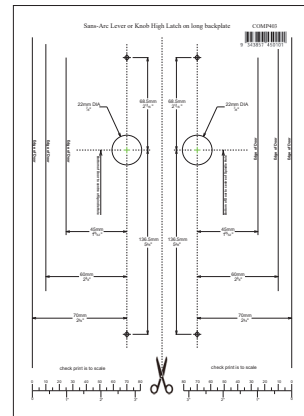

Figure 2
5. Drill the two backplates with spindle housing (B) pilot holes from both sides of the door.
6. Drill the centre spindle hole using a 22mm or 7/8 "spade bit from both sides of the door. Figure 2 or 3.